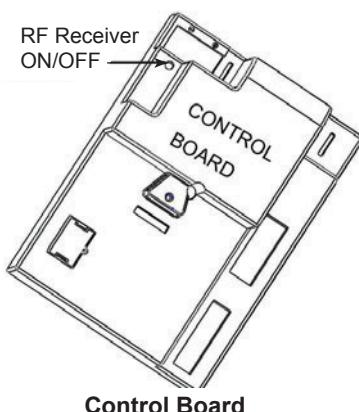

Figure 46
1. The RF receiver button on the control board in the fireplace must be in the on position before the learn function can begin. *Figure 46*. With the Command Center master switch in the ON position, use paper clip to depress the recessed button on Control Board, one beep for RF receiver ON or two beeps for RF receiver OFF